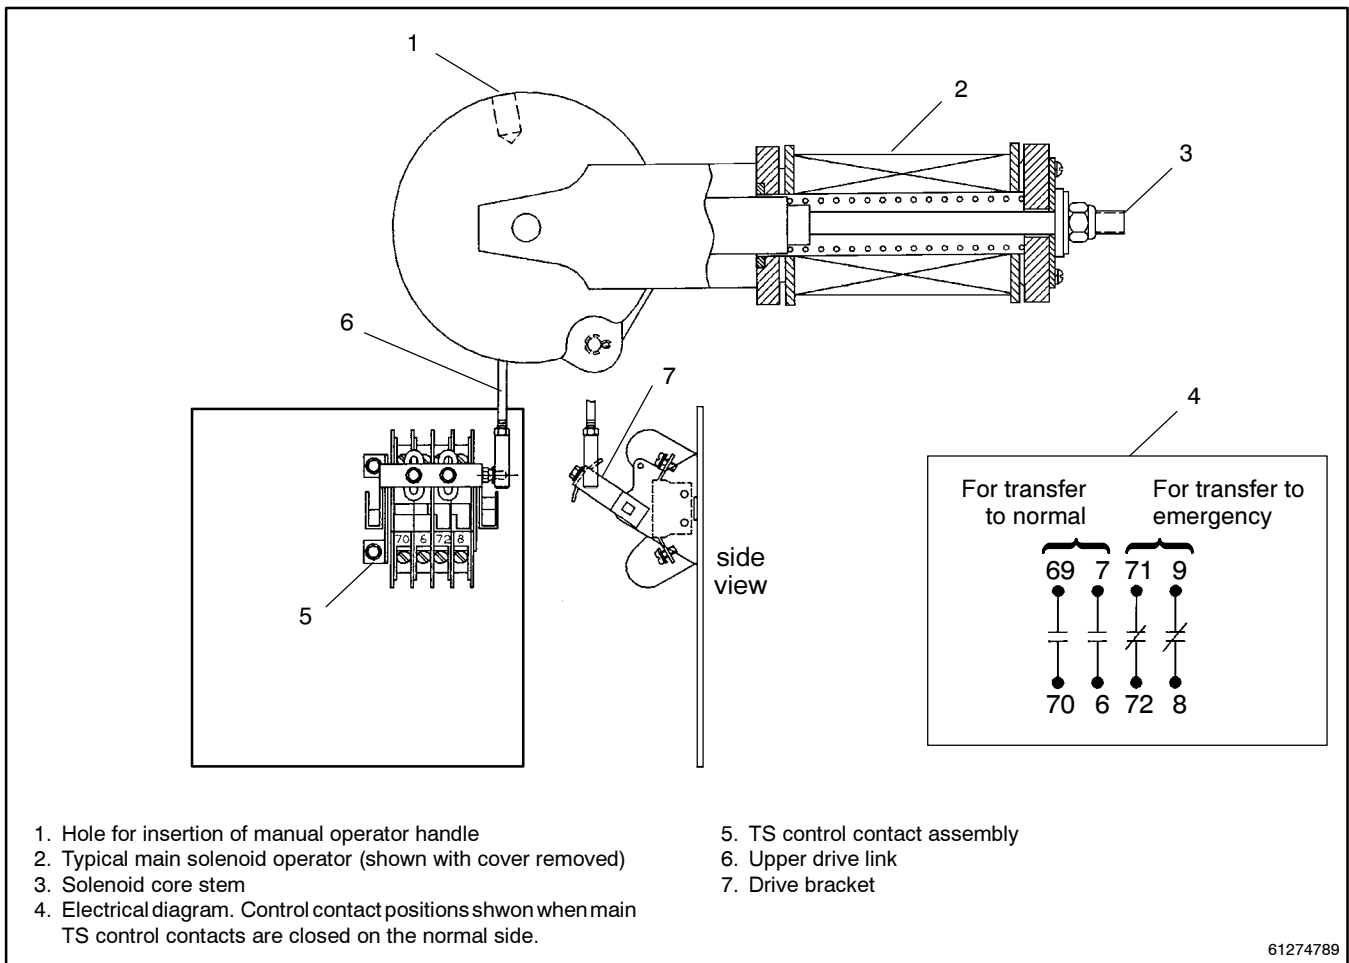

Figure 12-2 Typical TS Control Contact Arrangement.
5. To check the settings of the TS control contacts, proceed as follows (refer to Figure 12-2):
- a. Two sets of contacts interrupt the control current to the solenoid operator coil (TS) in